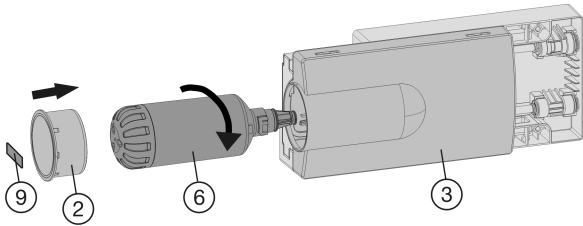

Fig. 59
- ▶ Place the tray cover *Fig. 59 (3)* in position.
- ▶ Insert the water filter *Fig. 59 (6)* and turn it approximately 100° to the right until it locks into position.
- ▶ Place the cover *Fig. 59 (2)* on the filter.
- ▶ Write the date of the next filter replacement on the supplied adhesive label *Fig. 59 (9)* and affix it to the module.